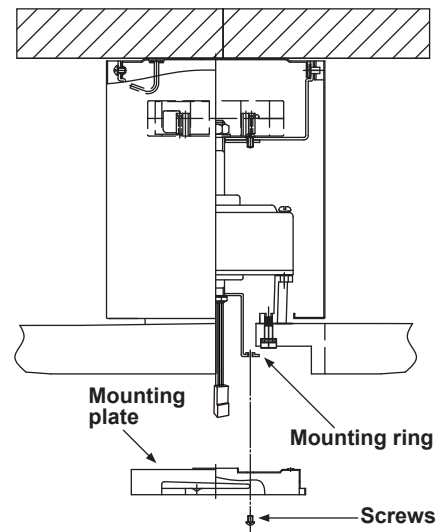

Figure 11
Step 2. Place the key holes on the mounting plate over the 2 screws previously loosened from the mounting ring, turn mounting plate until it locks in place at the narrow section of the key holes. Secure by tightening the 2 screws previously loosened and the one previously removed. (Fig. 11)